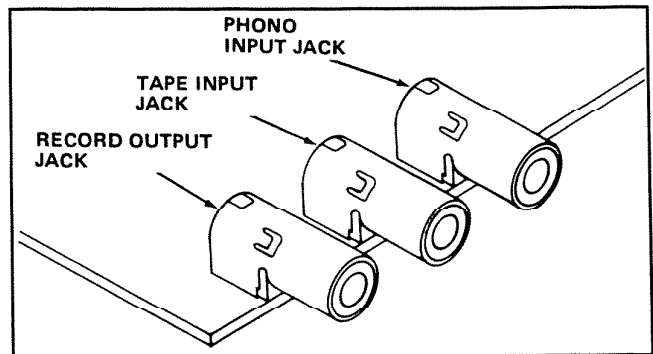

FIGURE 24
1. To connect an optional Record Changer or Cassette Player/Recorder, locate the **PHONO INPUT**, **TAPE INPUT**, and **RECORD OUTPUT** jacks on the master panel. See Figure 24.
2. To play the phonograph over the intercom system, insert the accessory's output plug into the master panel's **PHONE OUTPUT** jack. See Figure 24.
3. To play the cassette player over the intercom system, insert the accessory's output plug into the master panel's **TAPE INPUT** jack. See Figure 24.
4. To use the radio as a program source for recording on the cassette player, insert the tape player's input plug into the master panel's **RECORD OUTPUT** jack. See Figure 24.